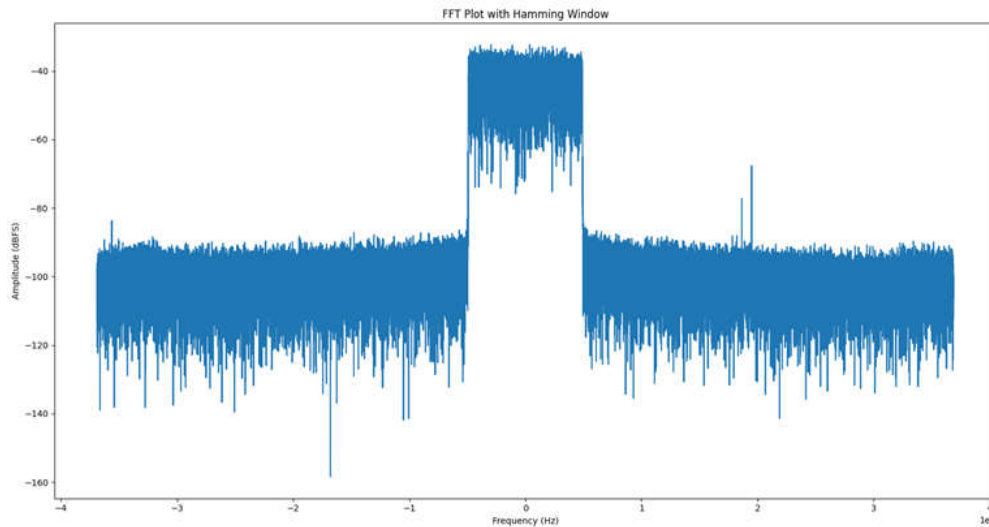

Figure 5-2. FFT Showing the Loop-Backed TM3.1a Waveform
5. Run the `./run_freq_plot.exe 2 ./cw_capture_fb0.txt 737280000` command from the `Hitek_RF_INTF_Common_Files_2023-06-07\software\x64_64\analysis\jesd` directory to display a Fast Fourier Transform (FFT) with Hamming window of the FB capture. The FB is sampled at 737.28Msps in 4T4R2F mode and is shown in Figure 5-2. You can zoom in to adjust the view in the image.